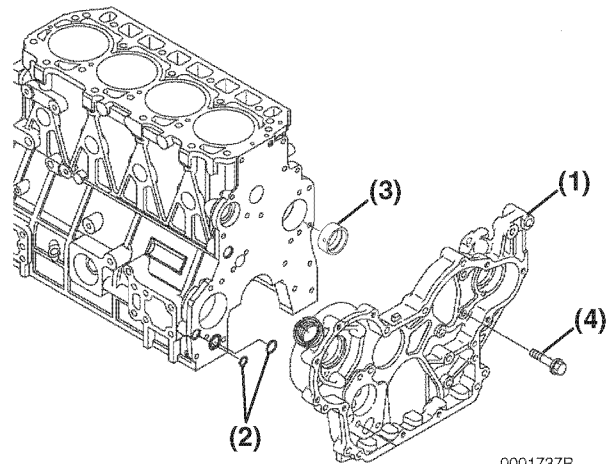
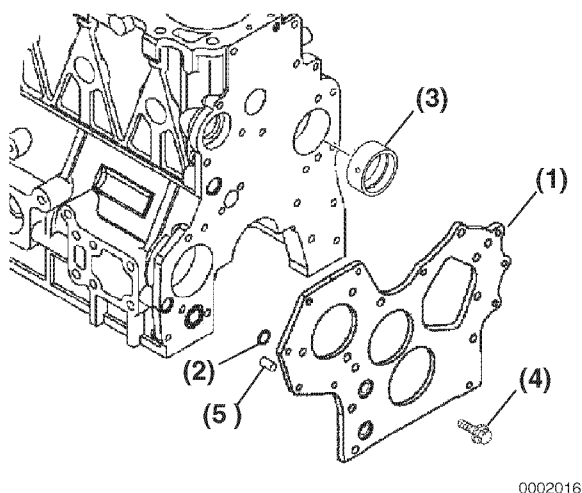

Figure 6-141
Figure 6-142
1. If removed, install a new camshaft bushing (**Figure 6-141, (3)**) using the appropriate service tool.
3. 4TNV94 - 4TNV106: Install two new O-rings (**Figure 6-141, (2)**) in the cylinder block.
4. TNV84 - TNV88: Reinstall the dowels (**Figure 6-142, (5)**) and a new O-ring (**Figure 6-142, (2)**).
5. Reinstall the gear case (**Figure 6-141, (1)**) or front plate (**Figure 6-142, (1)**). Tighten the bolts to the specified torque.